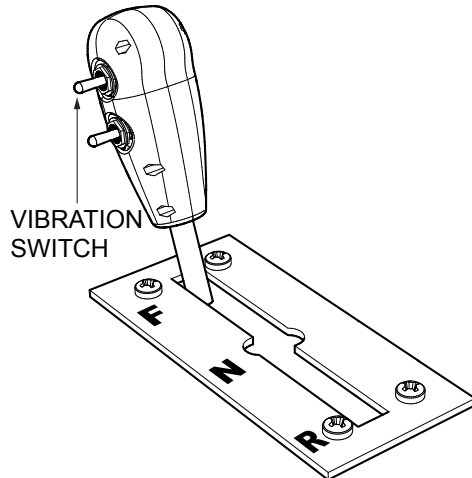

Figure 24. Vibration Toggle Switch
1. To begin the vibratory action, toggle the vibratory switch located on the right side of the travel lever as shown in Figure 24. This will generate 3,400 lbf. (15.1 kN) of centrifugal force at a frequency of 4200 vpm (vibrations per minute) to the front drum.